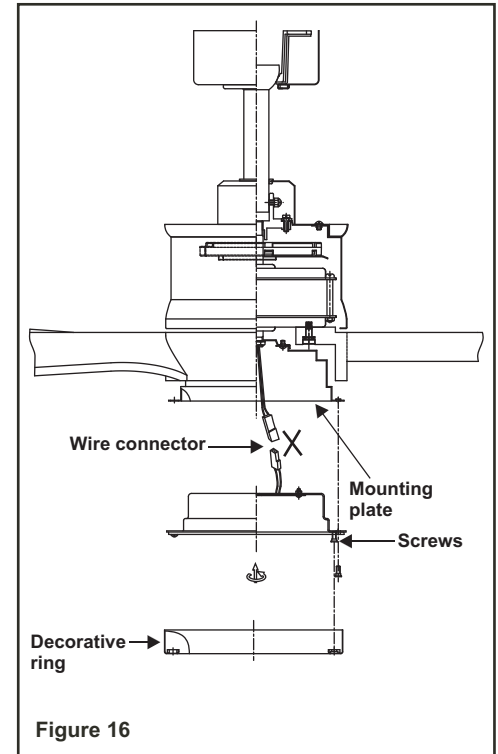

Figure 16
3. Remove the 2 screws from the mounting plate. (Fig. 16)
4. Place the LED light kit to the mounting plate. Align the mounting holes with the holes in the light kit and mounting plate, and fasten using the two screws previously removed. (Fig. 16)
5. Slide the decorative ring up to light kit assembly and place the key hole on the decorative ring over the two screw on the light kit, turn decorative ring until it locks in place at the narrow section of the key holes. (Fig. 16)